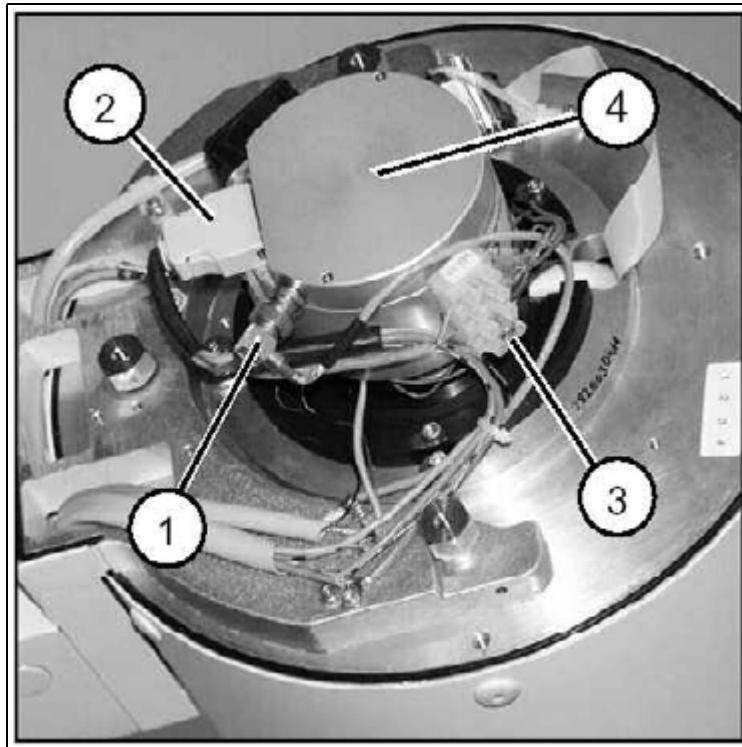

Fig. 12: Replacing the camera and the I. I. optics\_1
1. Remove the I.I. cover (already removed in (Fig. 12 / p. 45)).
2. Unplug the connectors (1/Fig. 12 / p. 45), (2/Fig. 12 / p. 45) and disconnect the fan wires (3/Fig. 12 / p. 45).
5. Turn the entire camera (4/Fig. 12 / p. 45) counterclockwise until it is no longer attached. For subsequent reinstallation, count the number of turns when removing the camera. The connector (2/Fig. 12 / p. 45) should be in the position shown in (Fig. 12 / p. 45).
3. Unplug the connectors (1/Fig. 12 / p. 45), (2/Fig. 12 / p. 45) and disconnect the fan wires (3/Fig. 12 / p. 45).
5. Reattach the connectors (1/Fig. 12 / p. 45), (2/Fig. 12 / p. 45) and the fan wires (3/Fig. 12 / p. 45).